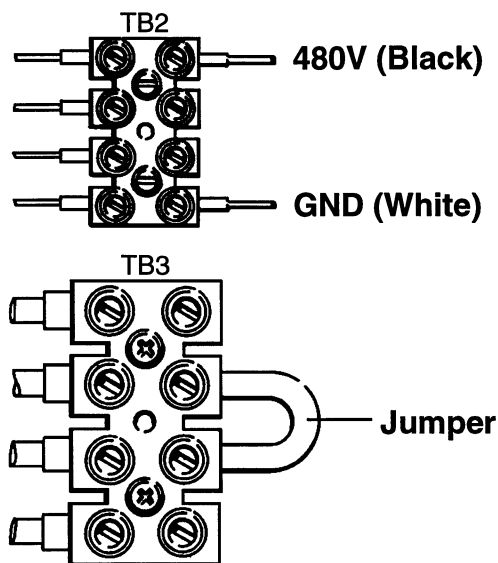

Figure 2-6 Verify 480V Configuration
1. Configure TB2 by moving the voltage link wire (Black) to the position shown in Figure 2-6.
2. Configure TB3 with one jumper linked in the position shown in Figure 2-6.